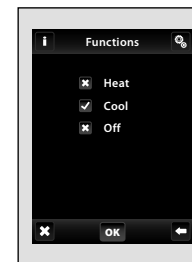

fig. 111
- **Functions:** choose the thermostat for the chosen heating circuit: Heating / Cooling / Off (fig. 111).